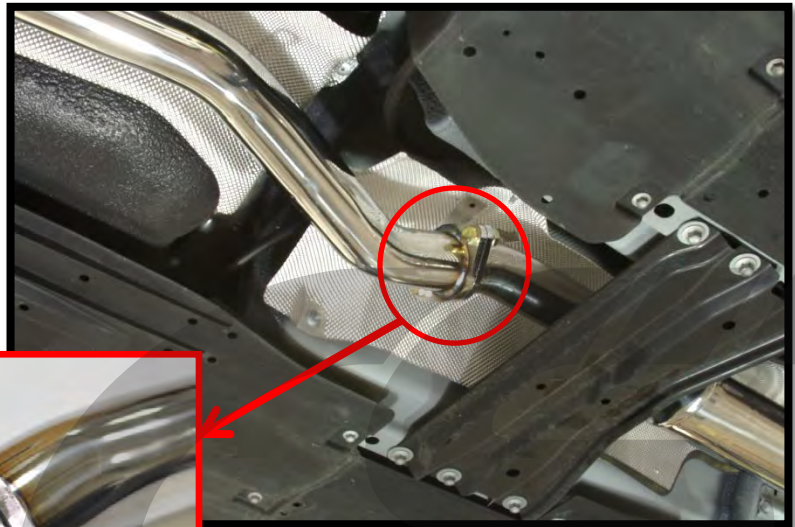

Figure 4d
- g) Install the rearward mid-section pipe as shown in **Figure 4d**. Use the provided 60mm gasket and two assembled bolts with flat and split lock washers.